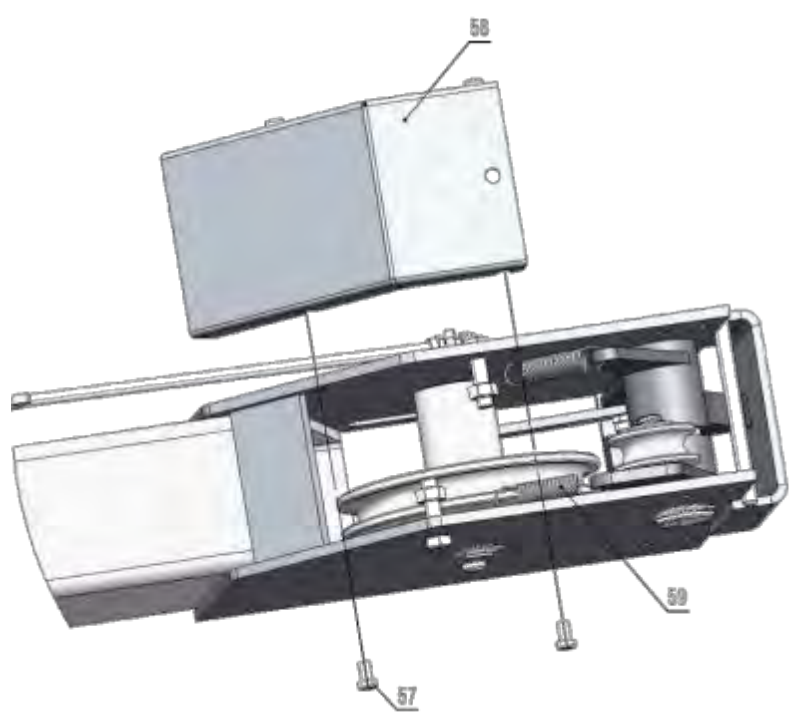

Fig. 27
N.Install spring and beam safety cover of cross beam (See Fig.27).